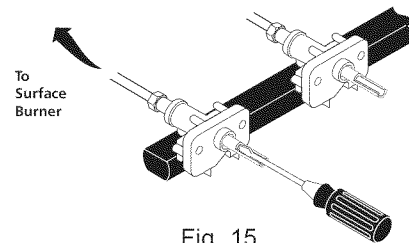

Fig. 15
- Insert a thin-bladed screwdriver into the hollow valve stem and engage the slotted screw inside. Flame size can be increased or decreased with the turn of the screw. Turn counterclockwise to increase flame size. Turn clockwise to decrease flame size. (See Figs. 15 & 16).